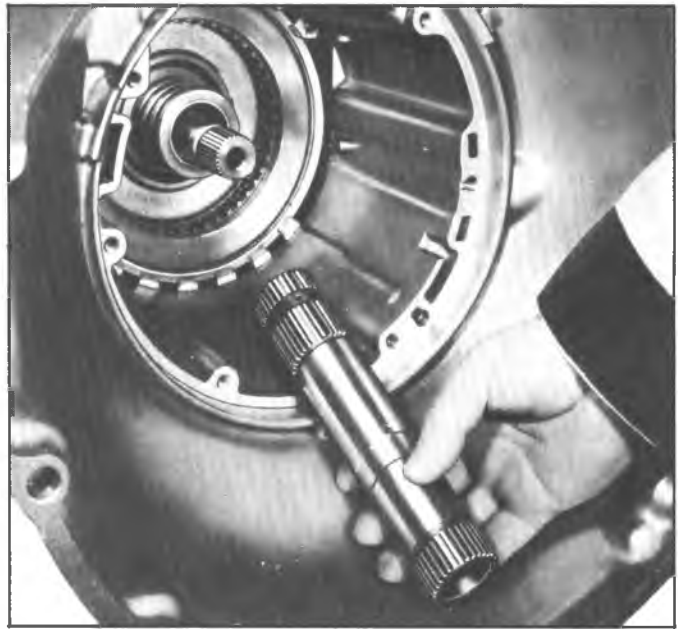

Fig. 31T--Removing Sun Gear Shaft
9. Remove sun gear shaft (fig. 31T).